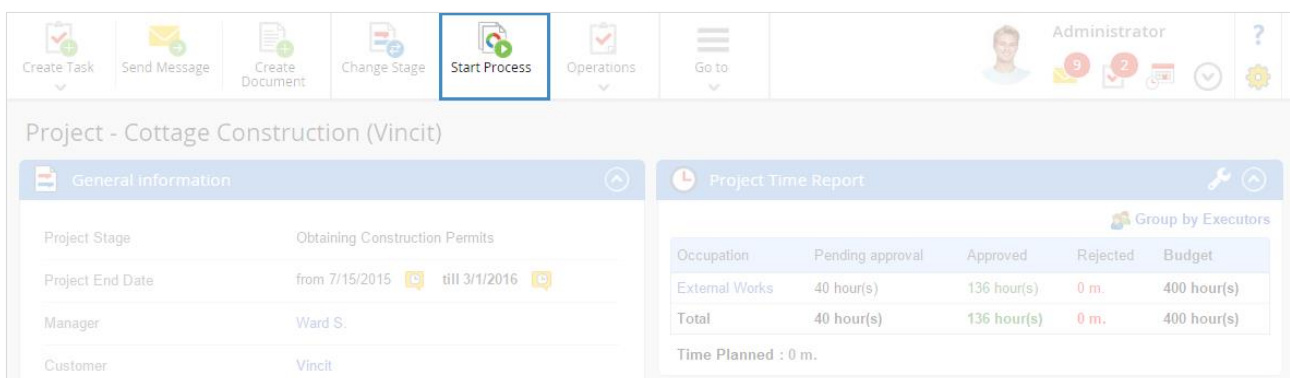

Fig. 144. Start Process button on the project page
**Start Process** button is now on the project page in the top menu (in web application) (fig. 144).